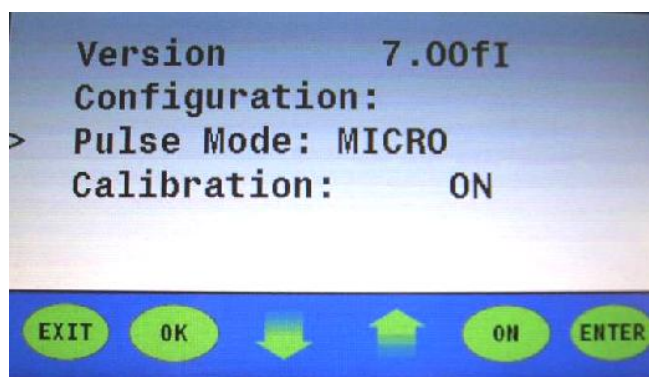

Figure 11
3. Scroll down to Pulse Mode and press ENTER. **(Figure 11)**